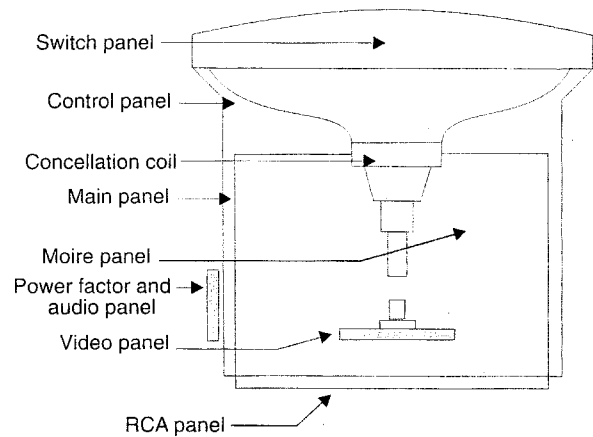

Fig. 1
1. Location of the Panels (see Fig. 1)